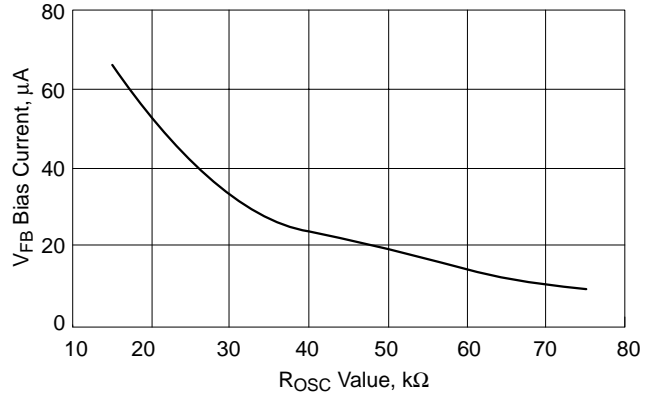

Figure 4. V_{FB} Bias Current vs. R_{OSC} Value
- The V_{FB} Bias Current changes with the value of R_{OSC} per Figure 4.
To set the no-load positioning, a resistor is placed between the output voltage and V_{FB} pin. The V_{FB} bias current will develop a voltage across the resistor to decrease the output voltage. The V_{FB} bias current is dependent on the value of R_{OSC} . See Figure 4 on the datasheet.